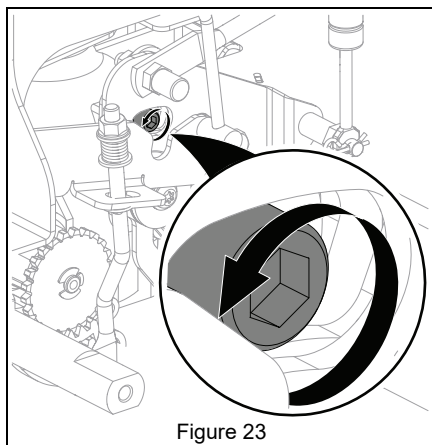

Figure 23
5. Loosen the neutral set screw on the transaxle. See Figure 23.